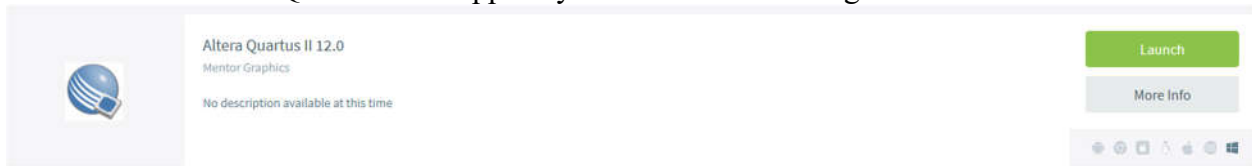

Figure 6: Quartus II Launch in AppsAnywhere.
1. You can find Quartus II in AppsAnywhere as shown in Figure 6.